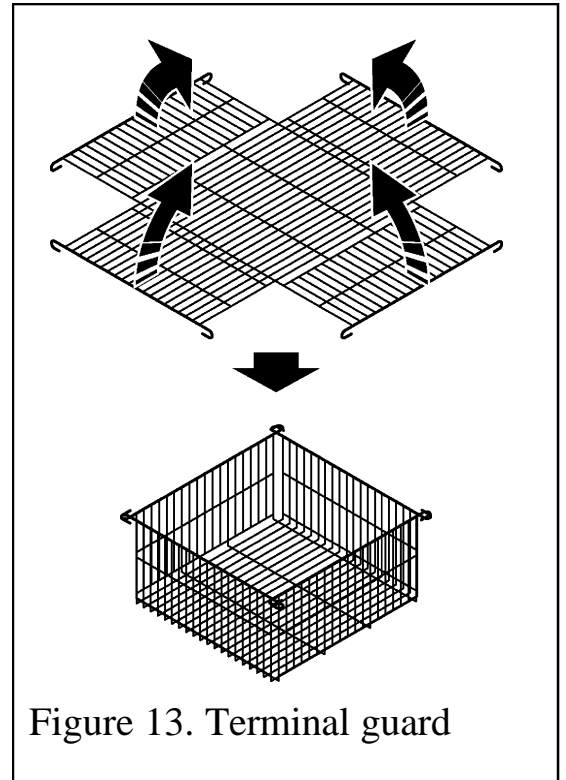

Figure 13. Terminal guard
- Fold the terminal guard as shown in figure 13.